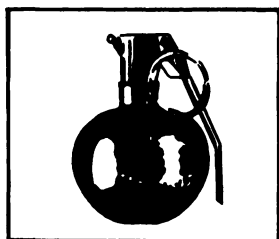
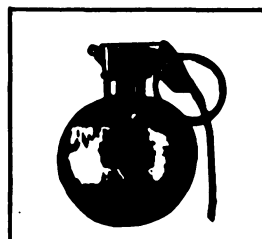

Figure 1.
Figure 2.
1. Identification of hand grenades. You must be able to identify those grenades which you will usually find within your unit by their shape, color and/or markings. Figures 1 through 11 will assist you in becoming familiar with the more common grenades currently available.
***All of these have impact detonating fuze M217 which has a red safety lever with word IMPACT on it. Notice in figure 2 how the fuze head (M217) is shorter than the time delay fuze pictured in figures 1, 3, and 4.**